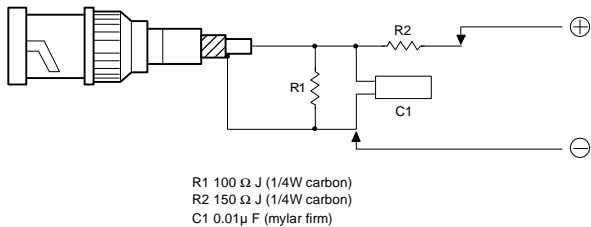

Fig. 1 Dummy network
- (1) 150 ns access time version (Not marked with "|"; manufactured before June, 1996; shipped only to North America and Europe)
- (2) 120 ns access time version (Marked with "|"); manufactured after July, 1996 These two versions can be identified, one from the other, by whether or not the "|" mark is stamped on the white background as shown in Fig. 1 and by the marking on the case. (See Fig. 1.)